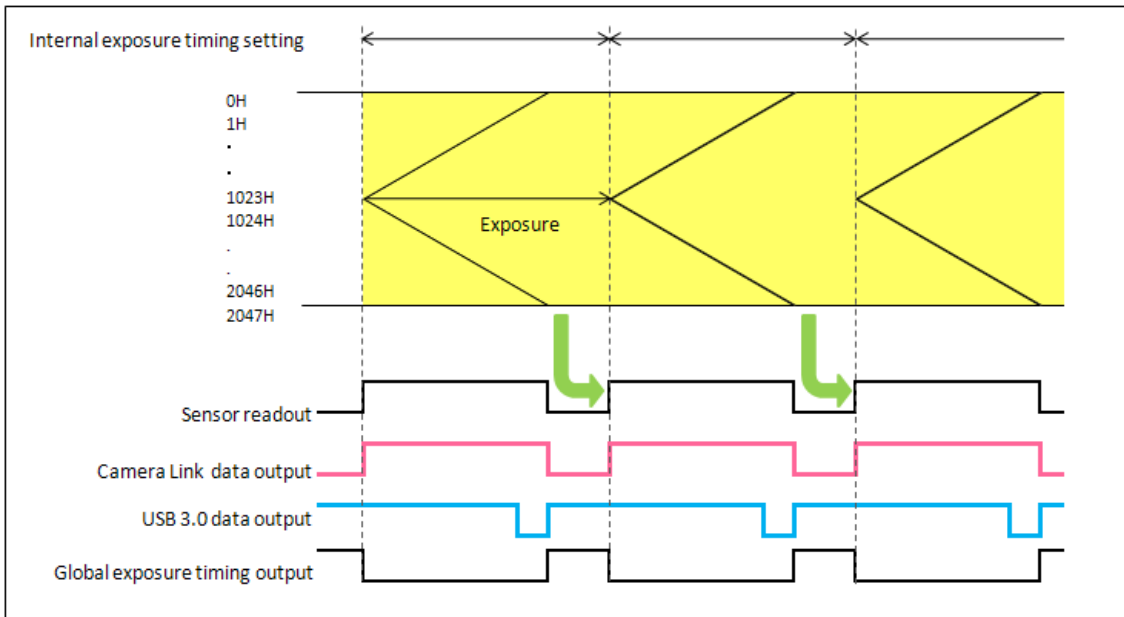
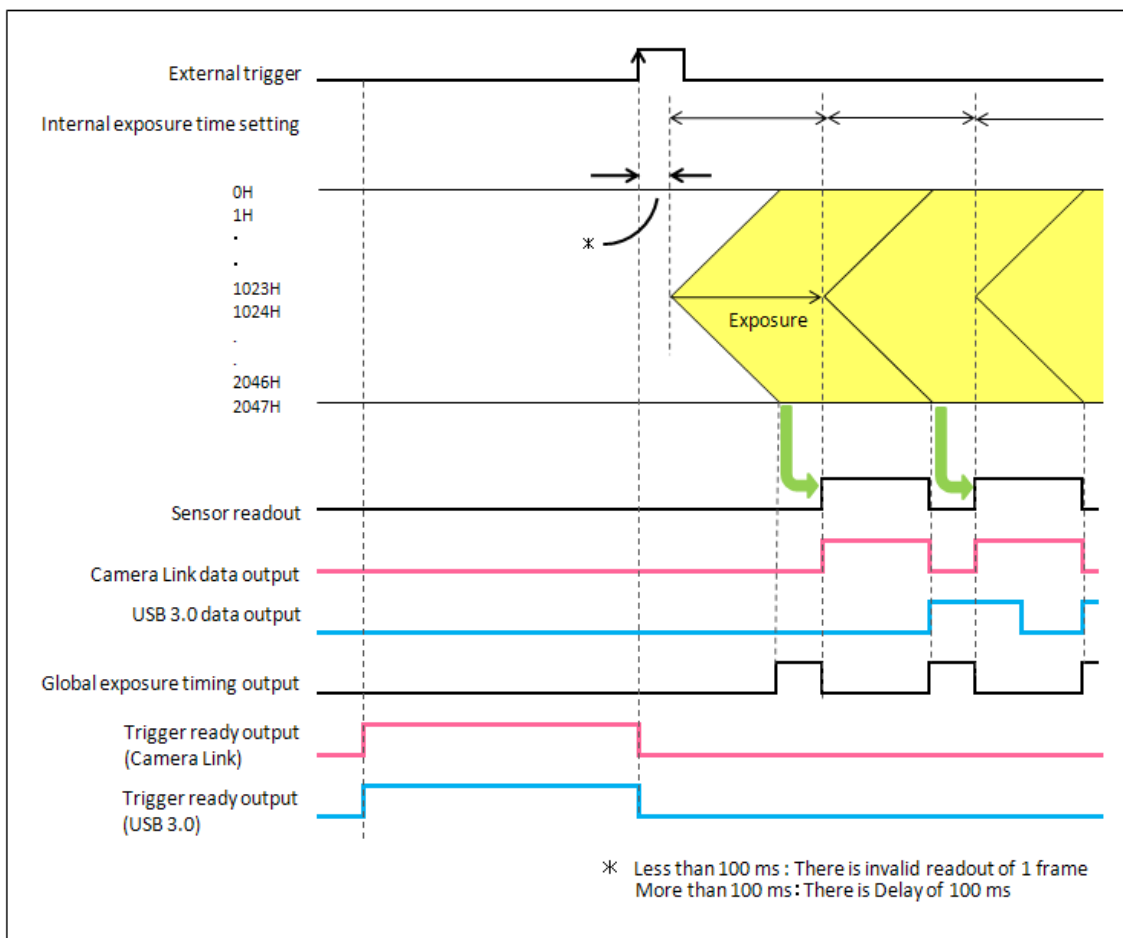

Figure 10-4
Figure 10-11 (Ex. rising edge)
- Please refer to Figure 10-4 to Figure 10-11 about details of each trigger output functions.